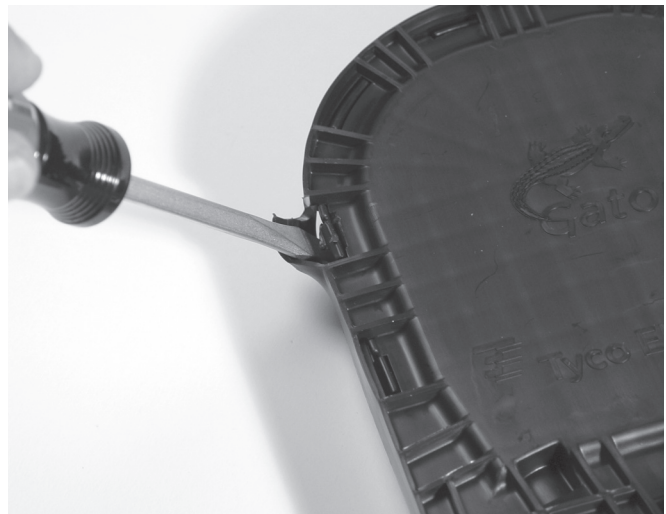
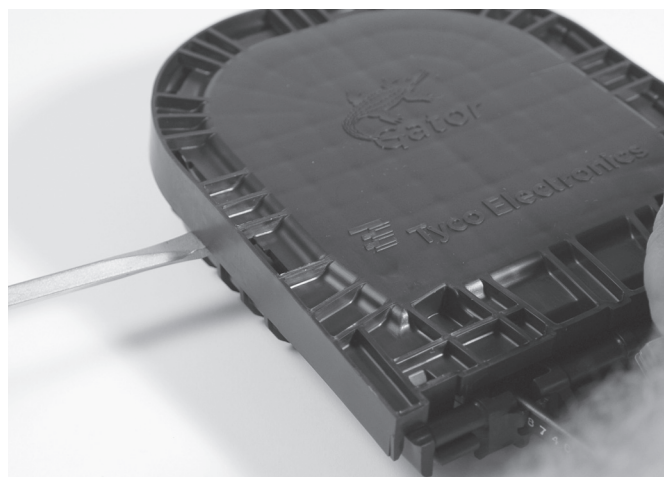

Figure 10
Figure 11
1. Insert a flat blade screwdriver under the outside lip of the cover at each of the eight latch points, and pry the lip away until the plastic lip breaks (Figure 10). Pull upward on the cover of the closure and remove it (Figure 11). Cables can be simply pulled up out of the ports.